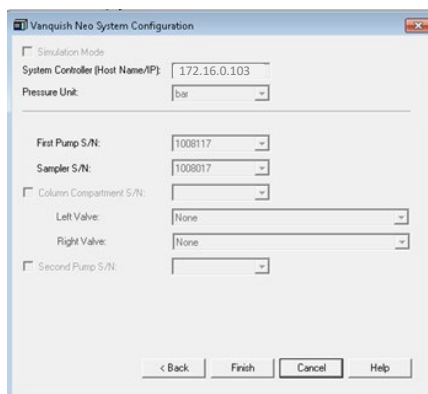

Figure 22: Vanquish Neo system and connected modules
4. After the IP address is entered and the system is successfully connected to the instrument control PC, the configured modules of the Vanquish Neo system are displayed (Figure 22).